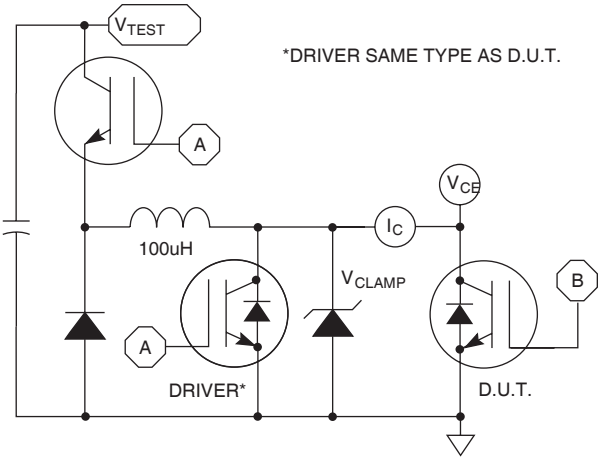

Figure 24, EON1 Test Circuit
① Repetitive Rating: Pulse width limited by maximum junction temperature.
② For Combi devices, I_{ces} includes both IGBT and FRED leakages
③ See MIL-STD-750 Method 3471.
④ E_{on1} is the clam ped inductive turn-on-energy of the IGBT only, without the effect of a commutating diode reverse recovery current adding to the IGBT turn-on loss. (See Figure 24.)